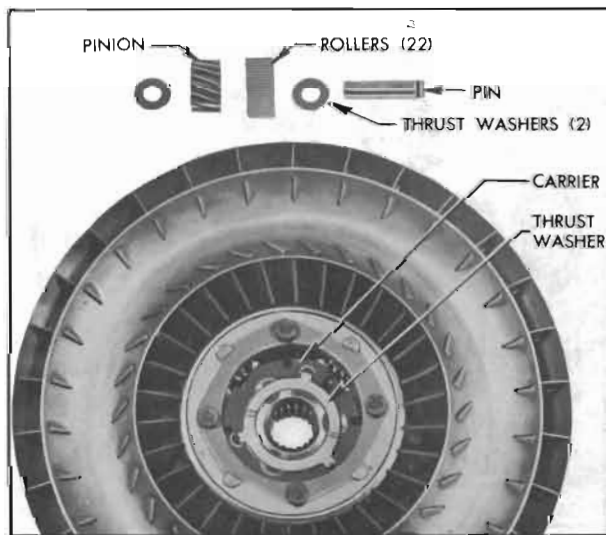

Figure 5-41—Second Turbine Parts
9. Install pinion pin lock plate so that it enters the notches of all pins, then install the four turbine-to-carrier bolts with lockwashers. See Figure 5-41.